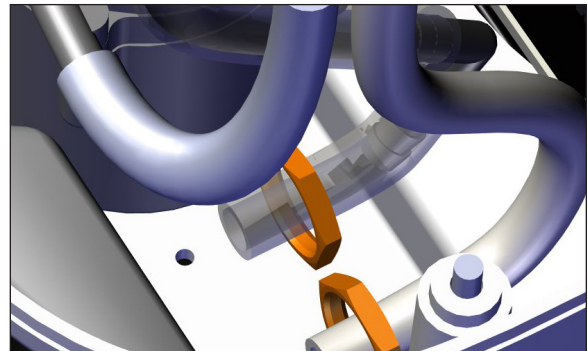

Figure 82 - Slide retainer nuts onto tubing
5. Slip the quick disconnect retaining nuts onto the ends of the tubing just installed (Figure 82).